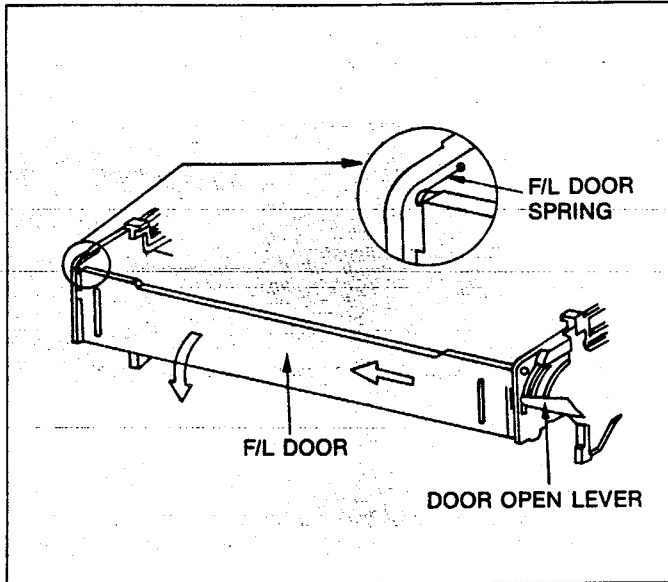

Fig. 42
1. Move the F/L Door to the left most and disengage the right door boss from the hole provided on (R) Guide Bracker while Warping F/L Door slightly. (Refer to Fig. 42)
5. Insert right door boss to the hole provided on (R) Guide Bracket while wrapping F/L Door slightly. In this case, make sure that Door Open lever is positioned as shown in Fig. 42.